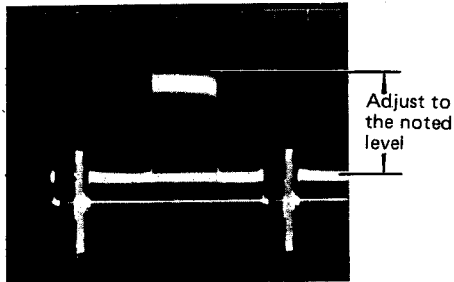

Fig. 5-6-19
- o Set SW3 (DETAIL ON/OFF SWITCH) on the Process board to ON position and adjust VR16 (PULSE MIX) so that the pedestal level of video signal is the same as the noted level. (Fig. 5-6-19)